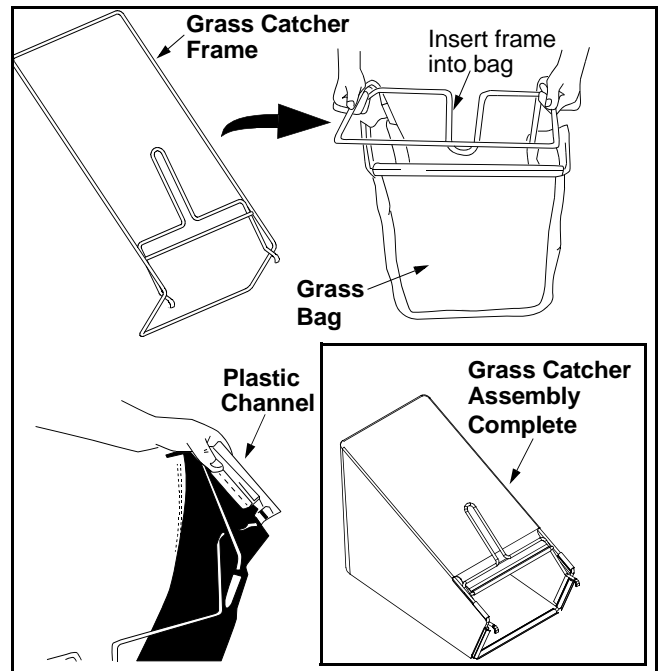

Figure 7
- Insert frame into grass bag with the black plastic side on the bottom of bag. See Figure 7.
- Slip the openings in the side of the plastic channel on bag over the hooks on the grass catcher frame. Secure bag to the frame by working the six plastic channels on bag over frame. All of the plastic channels except the center top of the bag attach from the outside of bag. The center top of the bag attaches from inside the bag. See Figure 7.